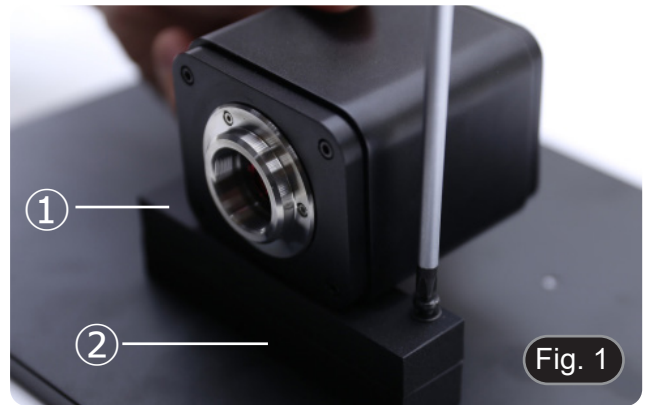

Fig. 1
1. Using the supplied screws, join the fixing plate mounted on the camera ① and the fixing plate mounted on the monitor ②. (Fig. 1)